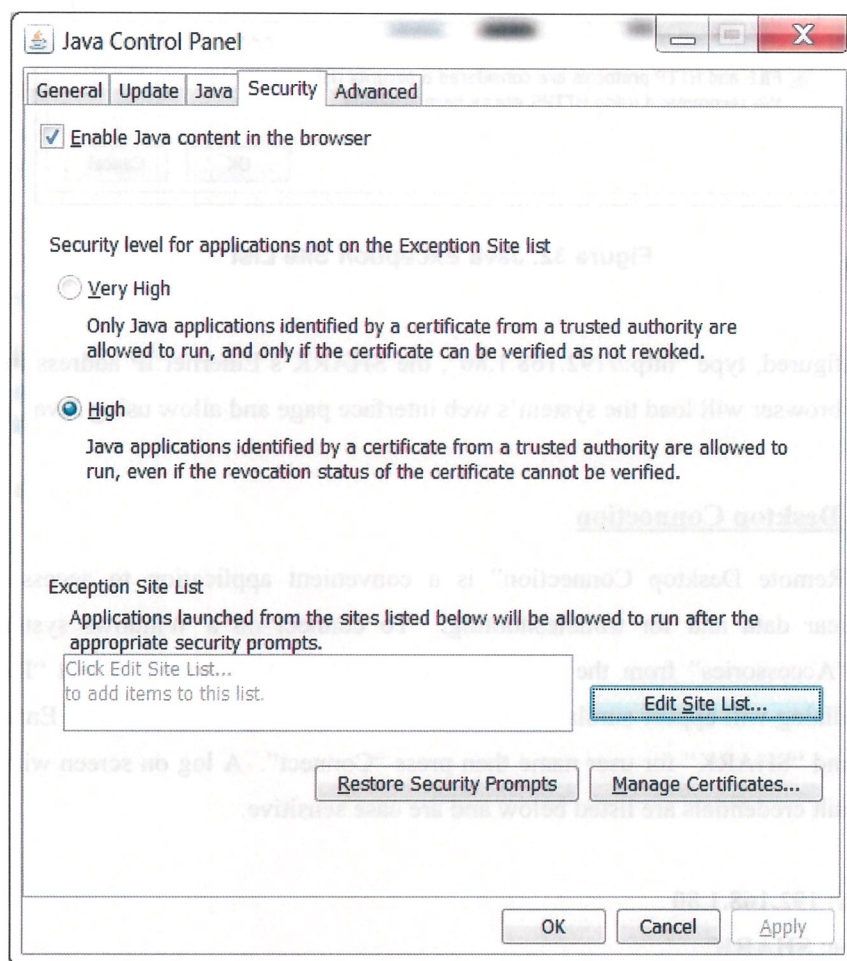

Figure 31. Java Control Panel
- Select the 'Security' tab. See Figure 31